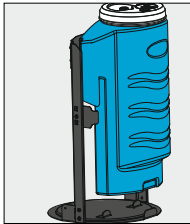
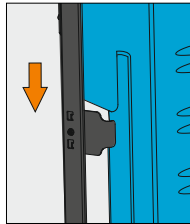
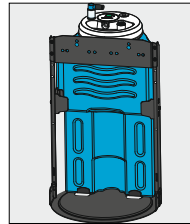

Figure 9
Figure 10
Figure 11
- 3) Install Reservoir Kit onto the frame by sliding Reservoir down into holder (Figure 9 and Figure 10), until Reservoir stands on Base (Figure 11).